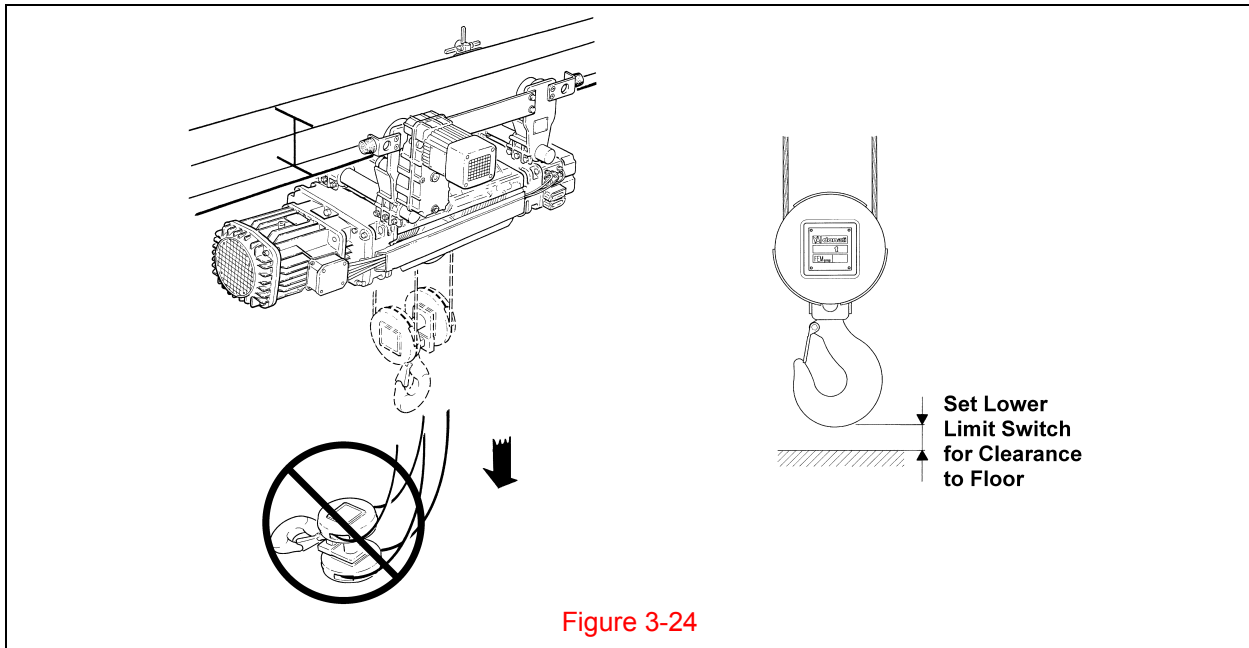
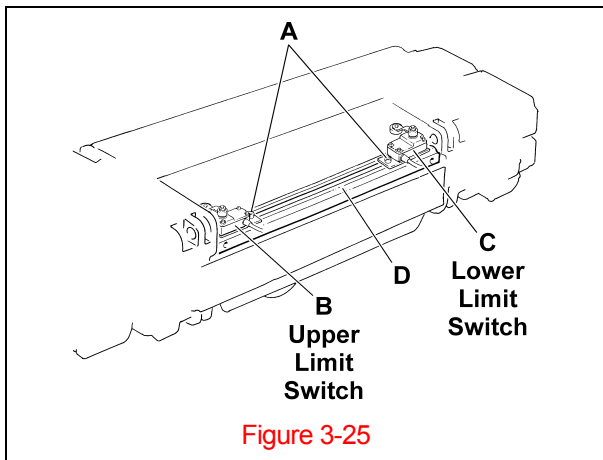

Figure 3-24
Figure 3-25
- 5) The lower Limit Switch (C) MUST be adjusted so that the hook can be lowered fully for the application, WITHOUT the Hook/Bottom Block resting on the floor causing a slack condition in the wire ropes (**Figure 3-24**).
- 6) Lower Limit Switch (C) Setting:
- Loosen the screws (A) so that the lower Limit Switch (C) can freely run along the Section Bar (D) then position the Switch so that it engages the striker on the rope guide. Secure the Switch in position by tightening the Screws (A) (**Figure 3-25**).
- Carefully verify the correct activation of the lower Limit Switch (C) by lowering the Hook several times and readjust the Lower Limit Switch (C) as necessary.
- 7) Upper Limit Switch (B) Setting:
- Loosen the screws (A) so that the upper Limit Switch (B) can freely run along the Section Bar (D) then position the Switch so that it engages the striker on the rope guide. Secure the Switch in position by tightening the Screws (A) (**Figure 3-25**).
- Carefully verify the correct activation of the upper Limit Switch (B) by raising the Hook several times and readjust the Upper Limit Switch (B) as necessary.